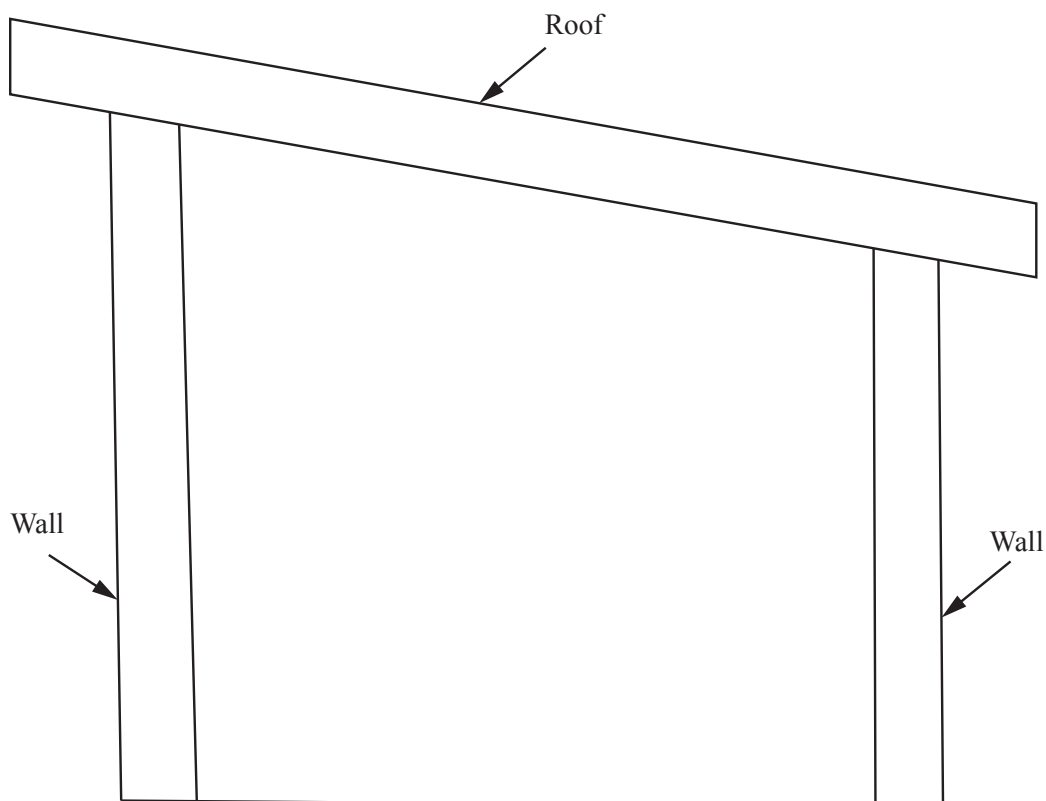

Fig. 2
- 2 **Figure 2** shows a multi-purpose Hall with a retractable flat roof.